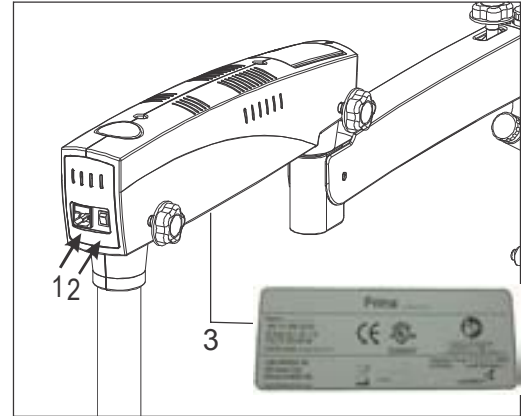

Fig. 8
Connect the power cable to the AC inlet socket (2) provided on the back of the swivel arm as shown in the fig 8.
Note: Power supply is designed with universal input 100V-240V AC, 50/60Hz. To plug in follow instruction on electrical label provided at bottom of the arm as shown (3) here in Fig. 8.
9.1 ON/OFF switch (Shown as 2 in fig. 8 above)